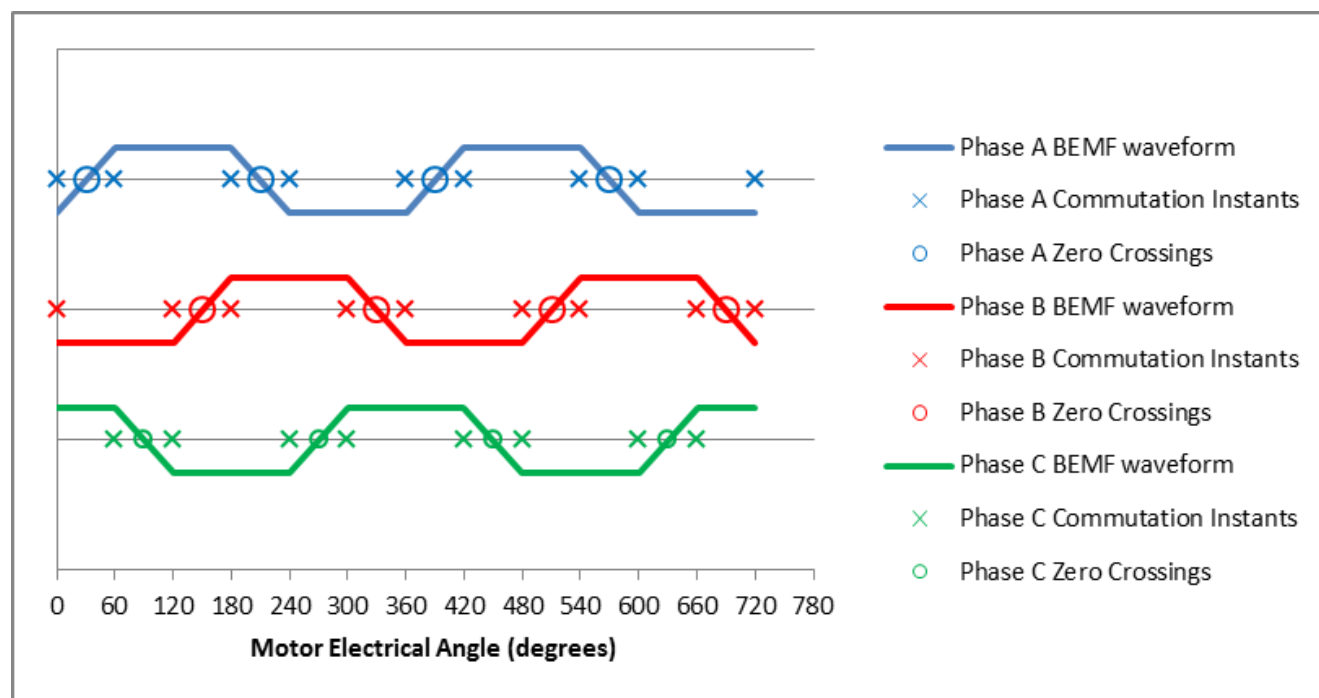

Figure 2. BEMF Reference Waveforms of all Phases
BLDC and PMSM (permanent magnet synchronous motor) motors are differentiated by the BEMF reference waveform $F(\theta_e)$. BLDC motors are identified by their trapezoidal BEMF reference waveforms on each phase as shown in Figure 2.
The key problem to solve in sensorless operation of 3-phase BLDC motor is determining the time of commutation. There are various sensorless drive methods based on the zero crossing point (ZCP) detection of the open BEMF. The relationship between the ZCP of the open phase and the commutation instant is shown in Figure 2. It can be observed that the required commutation instant lags 300 behind the ZCP. However, the phase BEMF cannot be extracted directly because the neutral point N is not accessible in most BLDC motors.
During the commutation Phase 1, when the BEMF of phase A is rising and ZCP of A has not yet occurred, the BEMF of phase A (e_A) is negative (see 0° to 30° in Figure 2); so, it is possible for the condition of inequality (21) to be met. When this occurs, the actual terminal voltage of A when the body diode of AL conducts is: